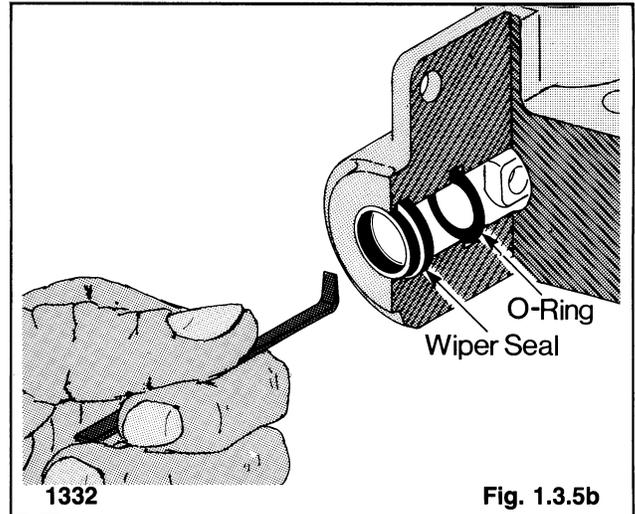

Fig. 1.3.5b
6. Remove the two detent plugs (16) detent springs (17) and detent balls (18) from the auxiliary spool end cap (14).
7. Remove the two end cap screws (19) from the auxiliary spool end cap (14). Remove the end cap.
8. Remove the detent spool (15), spring spacer (12), spring (11) and return washer (10) from the auxiliary spool (6). Remove the auxiliary spool (6).
9. Remove the two detent plugs (16), detent springs (17) and detent balls (18) from the boom spool end cap (14).
10. Remove the two end cap screws (19) from the boom spool end cap (14). Remove the boom spool end cap (14).
11. Remove the detent spool (15), spring spacer (12), spring (11) and return washer (10) from the boom spool (7). Remove the boom spool (7).
12. Remove and discard the six spool O-rings (9) and the spool wiper seals (8) from the spool bores (fig. 1.3.5b). Be careful not to scratch the spool bores.
4. Inspect the poppet seats inside the valve body for scoring (fig. 1.3.5b). Scoring on the poppet or poppet seat will allow leakage and may result in the boom or bucket being unable to hold their position when the spools are in neutral or at initial spool movement.